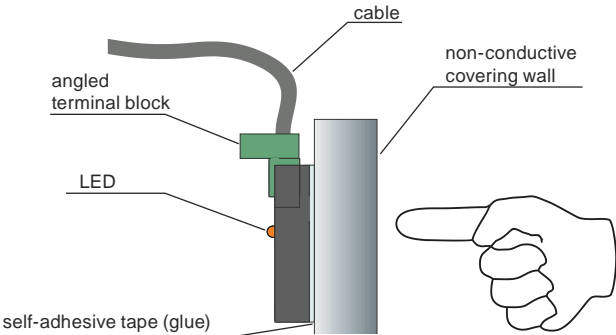

Fig. 1: CPK-C-41\_0 sensor installation
2. Install the sensor on the back side of the covering wall in a place which is intended for finger contact (see Fig. 1 and 2). The sensor can be installed behind a wall of an object made of non-conductive material (such as wood, chipboard, glass, ceramics, plasterboard, etc.). Maximum thickness of the covering wall is 30 mm.